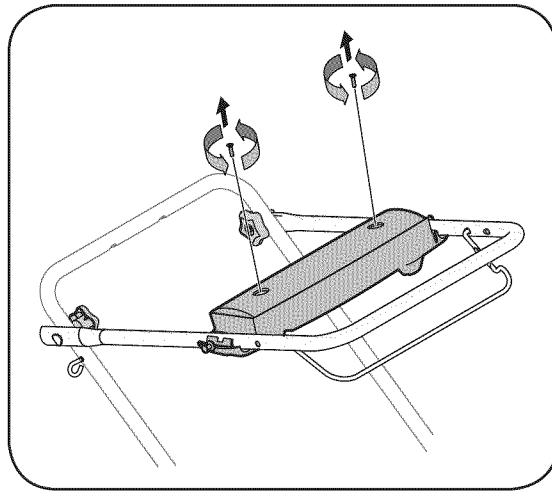

Figure 8
1. Loosen round handle knobs securing upper and lower handles and carefully fold the upper handle down toward the lower handle as shown in Figure 8.
2. Remove the two screws securing battery cover to battery housing and place them to the side. See Figure 8.
1. Open the battery cover as described in **Replacing Battery**. See Figure 8.